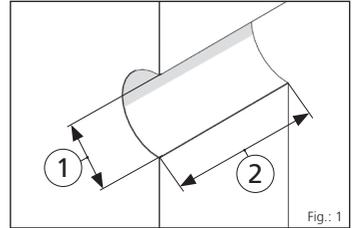

Fig.: 1
- 1** Check diameter (**D**) of core drill hole and wall thickness (**X**) (see fig.: 1).
Legend for Fig.: 1